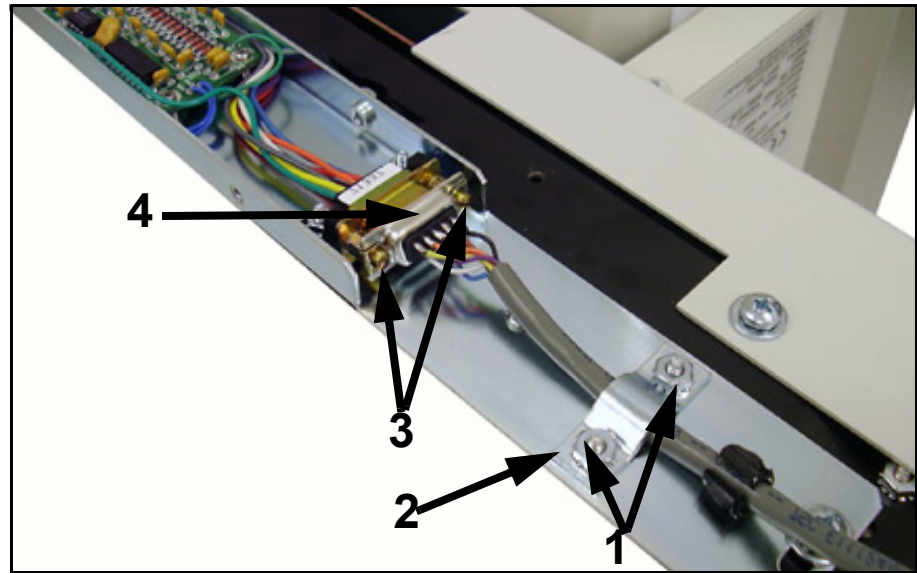

Figure 6-17. ION Chamber Screws
- 4 Unscrew the cable clamp nuts (1 in Figure 6-17) and remove the clamp (2).
- 5 Unscrew the two connector screws (3) and unplug the connector (4).